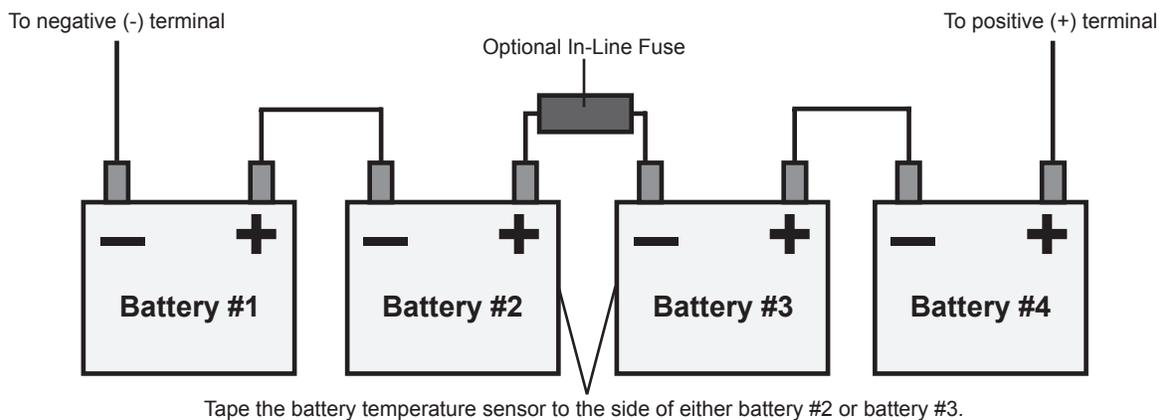

Figure 2.3.1
1. Number the batteries from 1 to 4 with labels or tape as shown in Figure 2.3.1.
3. Wire the batteries as shown in Figure 2.3.1. If used, install the in-line fuse between batteries #2 and #3.
5. Route the sensor end of the battery temperature cable to the batteries. Tape it to the side of battery #2 or #3 as shown in Figure 2.3.1.
1. Connect the battery temperature sensor to the UPS. Attach the sensor end of the cable to the side of the centre battery as shown in Figure 2.3.1.